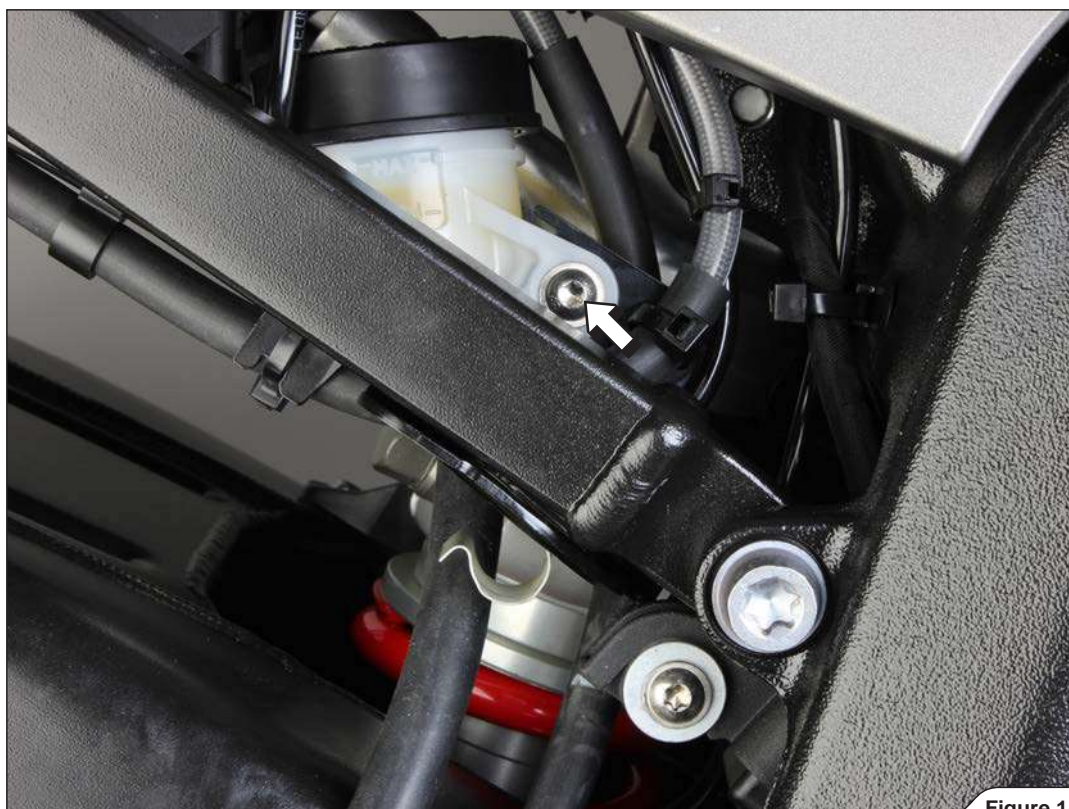

Figure 14
12. Unscrew the rear brake's reservoir and carefully move the reservoir and bracket out of the way (Figure 14).